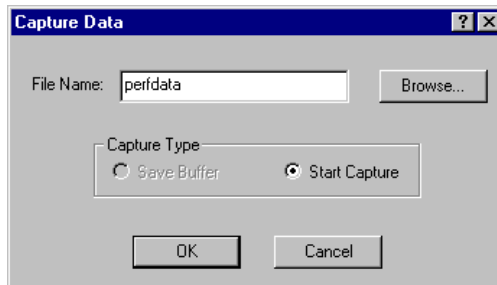

Figure 5-33. Capture Data to a File
1. Click Capture Data. A Capture Data dialog box is displayed (Figure 5-33).